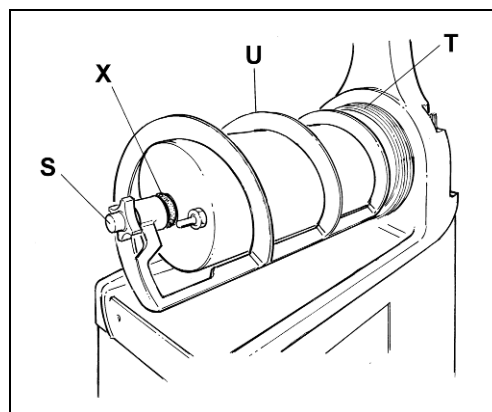

Fig. 5
- **U**nscrew the securing bolt (S) in the direction of the arrow (threading on the left), pull off of the mixing unit (U), and remove the sealing washers (X) and (T) (see figure 5).
- **M**ount the mixing system back together (fig.5), according to the following procedures: